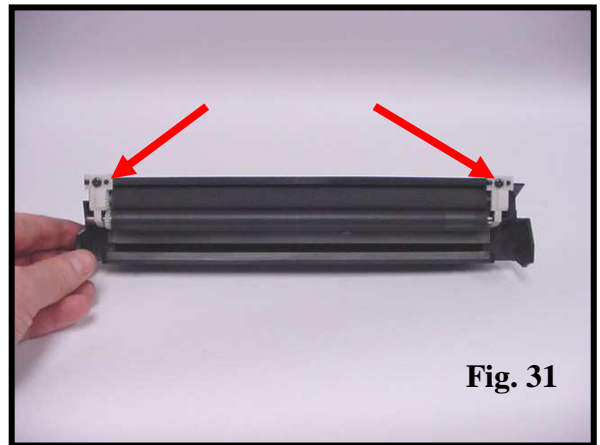

Fig. 31
31. Remove the two screws that secure the PCR housing to the waste bin (Fig. 31). Remove the housing for cleaning.